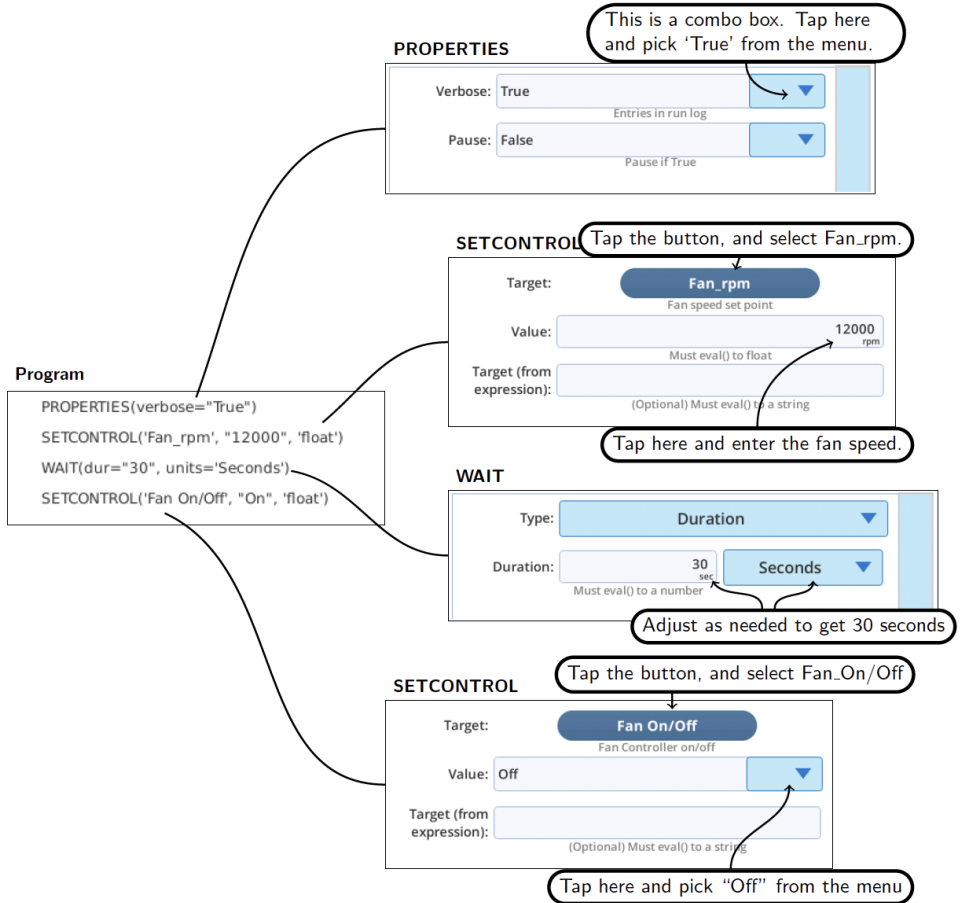

Figure 2-8. Setting the parameters for each step in the BP.
- Select each BP step, and configure it as shown in *Figure 2-8* below.